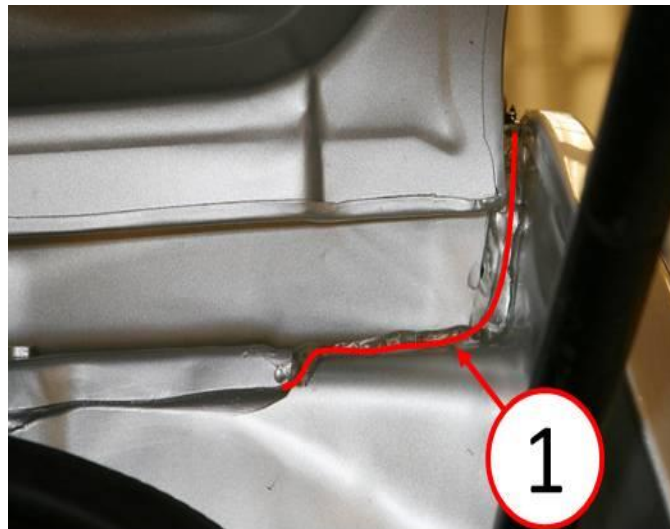

Fig. 4 Sealer Applied - Right Side Shown
5. Apply clear seam sealer to the right and/or left side at the designated areas in (Fig. 4).